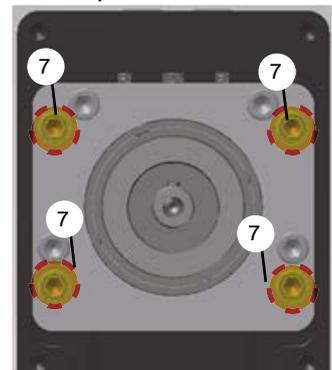

Figure 10 ETH1xx
- ◆ Loosen all tensioning screws of the clamping bushing (Figure 10 Pos. 20) (approx. 3 mm).
- ◆ Insert clamping bushing (Figure 10 Pos.20) into hollow shaft and push up to the inner stop (not with K1M drive option).